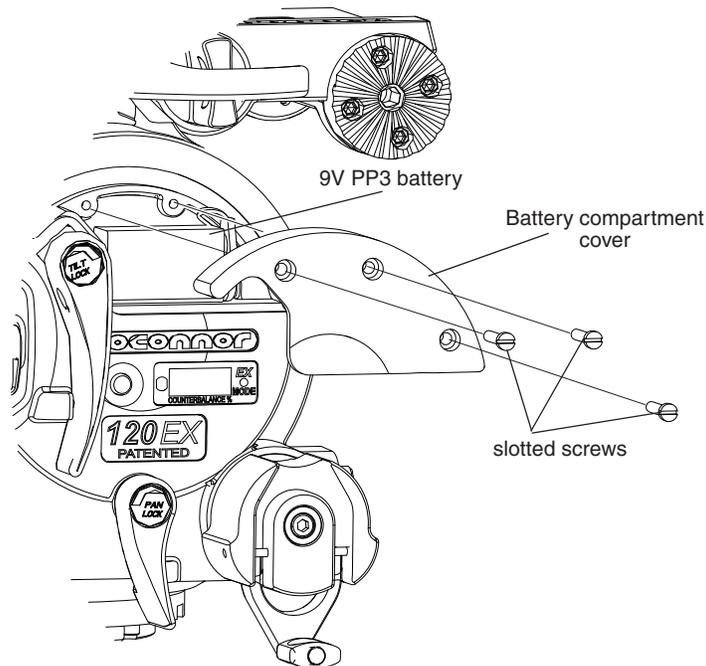

Figure 5 Battery replacement
1. Use a flat blade screwdriver to remove the three slotted screws in the battery cover (Figure 5).